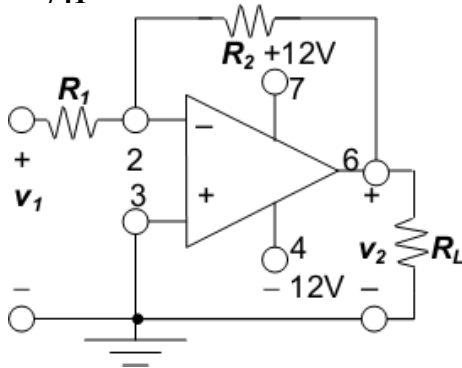

Fig. 2 Inverting Amplifier
The circuit of an Inverting Amplifier is shown in **Fig. 2**. If the opamp can be considered to be ideal, i.e. it has no limitations with regard to voltage, current or frequency, the voltage gain of this amplifier is given by
1. Build the circuit of Fig. 2 on bread board. Use general purpose OPAMP IC-741.